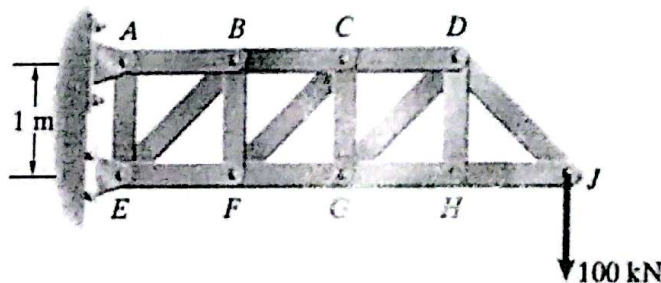

Figure 5. A Plane Truss
- Q5:** The truss supports a 100 kN load at J as shown in the Fig. 5 below. The horizontal members are each 1 m in length.